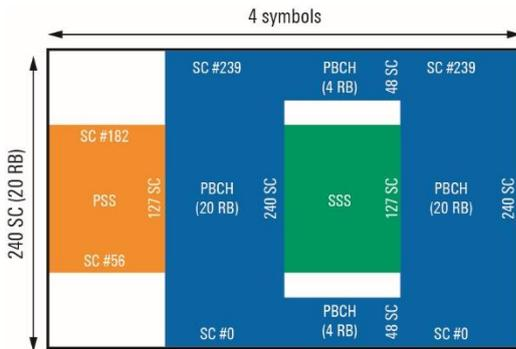
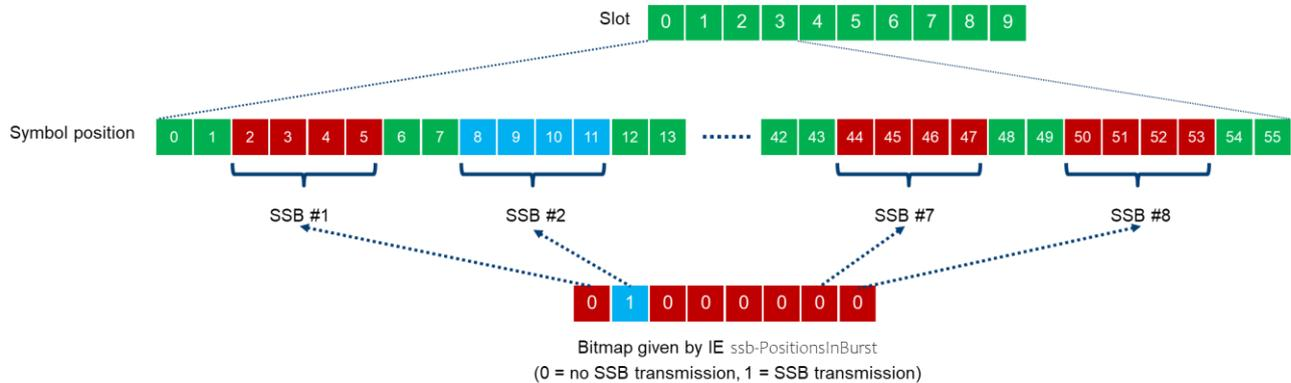

Figure 1 NR Synchronization Signal Block (SSB) [1]
Figure 2 An example of SSB transmission bitmap in NSA mode
Each SSB occupies 240 subcarriers (SC) that corresponds to 20 RBs in frequency domain and 4 OFDM symbols in time domain as shown in Figure 1.
Although the size of SSB (Figure 1) is fixed, the number of transmission positions within the defined SSB transmission pattern can be limited through a SSB bitmap which is signaled to UE in IE `ssb-PositionsInBurst` of SIB1 and RRC (RRC reconfiguration) message in NR standalone (SA) and non-standalone (NSA) mode, respectively. As illustrated in Figure 2, we leave per default only 2nd position in SSB burst to be activated on CMX.